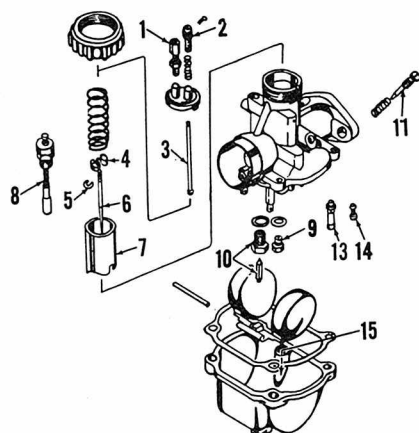
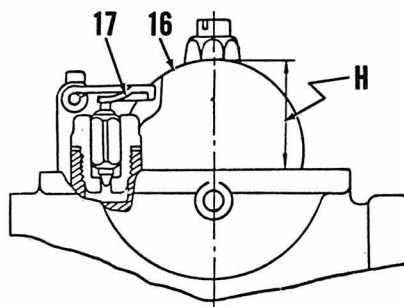

Fig. Y1-1—Exploded view of typical Mikuni VM carburetor.
Fig. Y1-2—Float level (H) is adjusted by bending tang (17).
(2—Fig. Y1-1). Idle mixture is adjusted by turning needle (11). Float setting (H—Fig. Y1-2) should be 20.5MM (1 1/8 inch) for all models. Refer to Fig. Y1-1 and the following specifications:
**MF-3, MF-3E, U-5 and U-5E** (Early type with idle mixture needle (11) on side of carburetor).